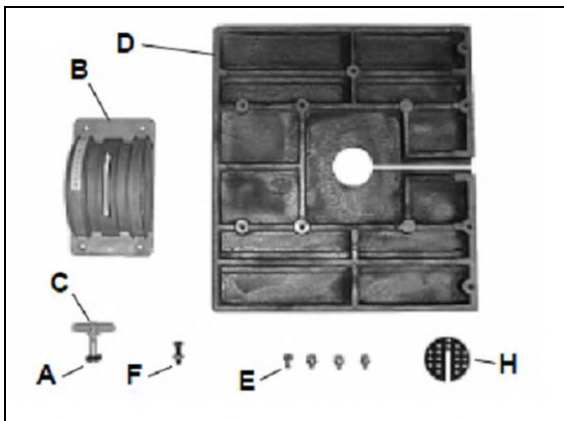

Fig 2
Insert the M8 x 50 coach bolt and square plastic insert (A, Fig 2) through the slot on the upper trunion casting (B) and,
Fit the plastic table insert (H, Fig 2) to the centre of the table with the angled bevel facing downwards.